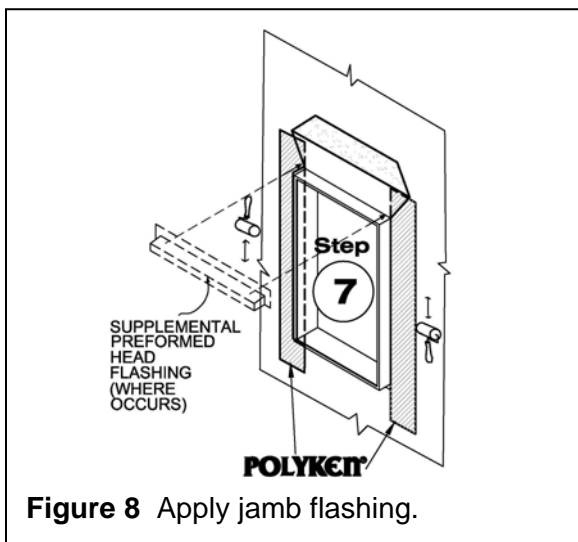

Figure 8 Apply jamb flashing.
Step 7. Precut Polyken® or Nashua® jamb flashing tape to extend a minimum of 6” above and below the rough opening. Peel off release liner and adhere Polyken® or Nashua® jamb flashing over the jamb fins and over top of Polyken® or Nashua® sill flashing (see Figure 8).